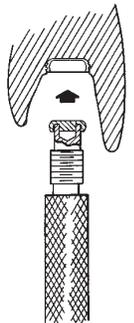
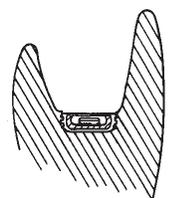

Fig. 7
Fig. 8
9. The Locator Male Seating Tool (attached to the Locator Core Tool, Zest order No. 8393) is used to firmly push a Locator Replacement Male into the metal denture cap. (Fig. 7) The Replacement Male must seat securely into place, level with the rim of the cap. (Fig. 8)